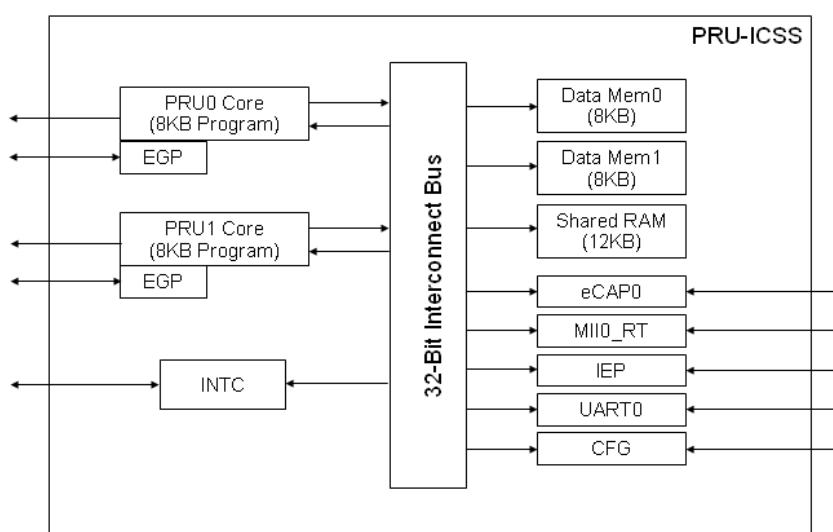

Figure 49 PRU-ICSS Block Diagram
**Figure 49** is a high level block diagram of the PRU-ICSS.